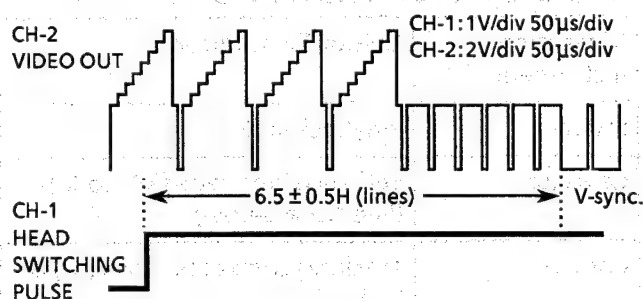

Figure 5-3.
7. Make this checking of waveform on the oscilloscope screen be as shown in Figure 5-3. just after the head switching point have been adjusted.